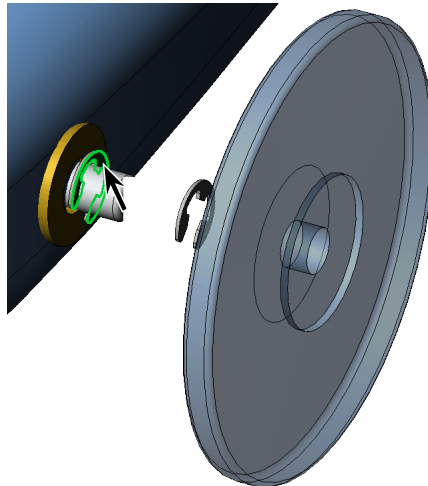

Fig. 18
Step 2. Click **outside face of E-Clip1**, Fig. 18.